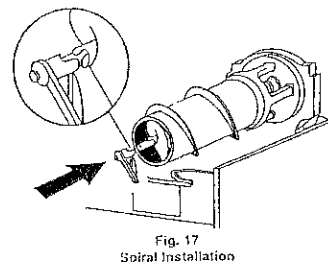

Fig. 17
5. Push the outer spiral around the evaporator until its front clutch engages with the inside auger front (Fig. 17)